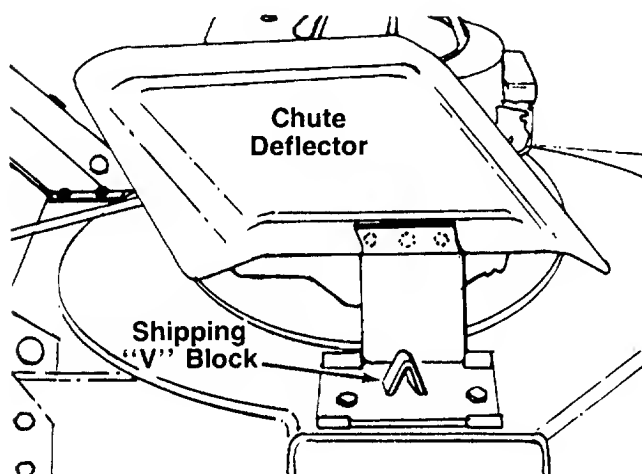

FIGURE 10.
1. The chute deflector on your mower is held in an upright position by a "V" block for shipping purposes only. This "V" block must be removed and discarded before the mower is put into operation. See figure 10.